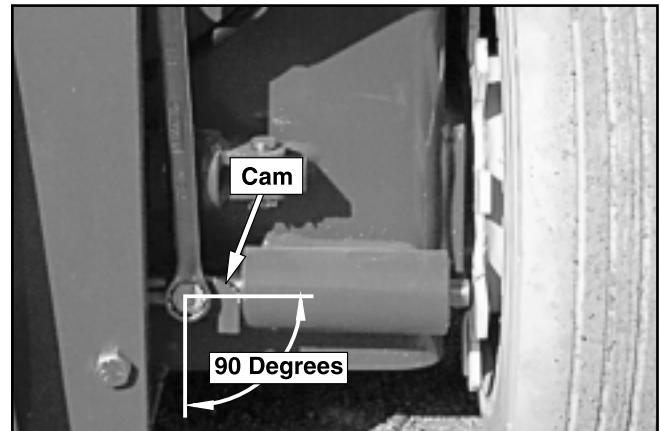

Figure 11.2—Brake Release Cam
3. Use a $\$$ wrench to rotate each brake release cam 90° (refer to Figure 11.2). Rotate the cam on the right brake cylinder counterclockwise